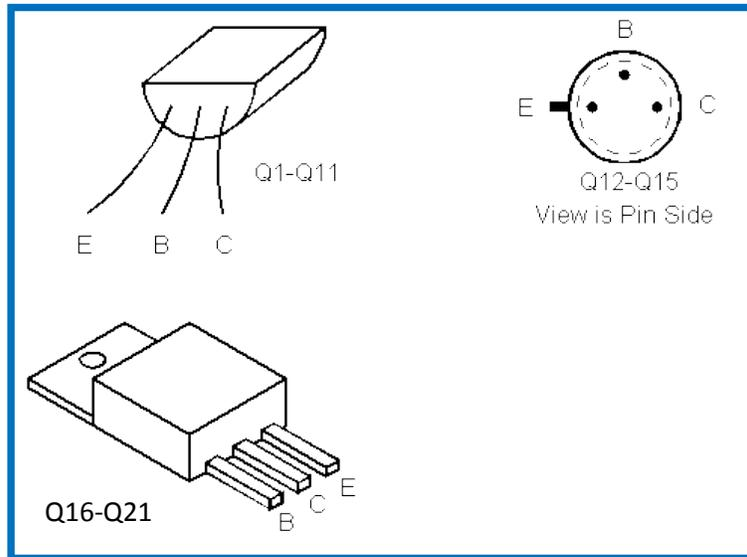

Figure 3. Transistor Pinouts.
- *Install and solder Q1 through Q11. Don't bend their leads before putting them on the board. Their cases should be about 3/16 inch off the board. Figure 3 shows the pinouts of all of the transistors.*